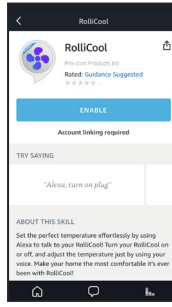

Fig. 5
**Step 2.** Select the RolliCool app and tap “ENABLE” (fig. 5).